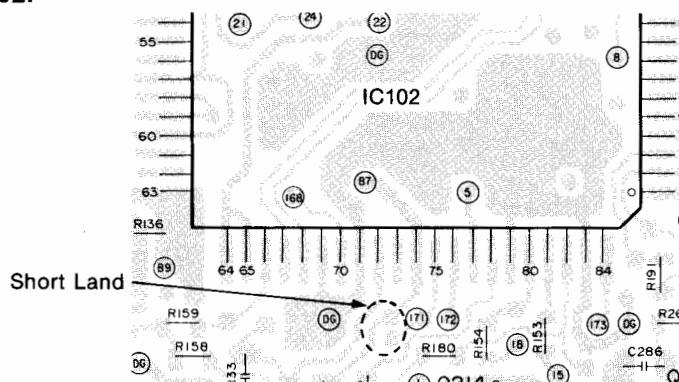

Fig. 1
- Short pins $\textcircled{74}$ and $\textcircled{75}$ of IC102. (Fig. 1)